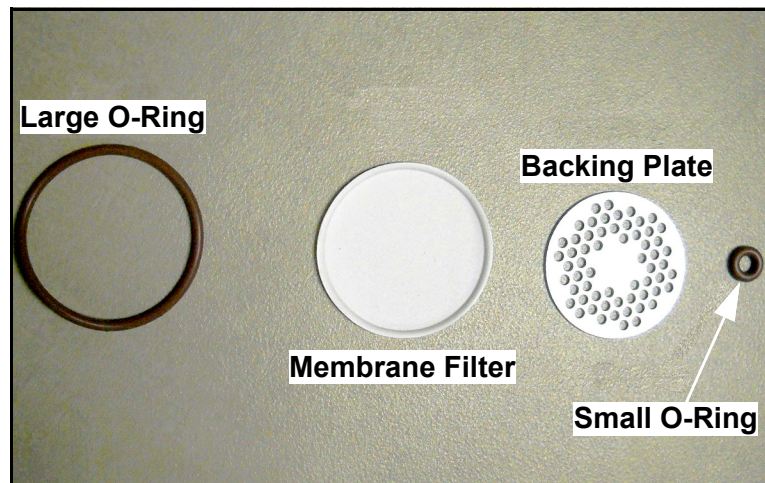

Figure 103: O-Rings, Membrane Filter and Backing Plate Removed
7. Using a tissue, clean the filter components (see *Figure 103* below).